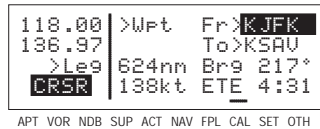

Figure 4-53
3. Turn the right outer knob clockwise to move the cursor to the "from" waypoint in the upper right corner of the screen (figure 4-53).